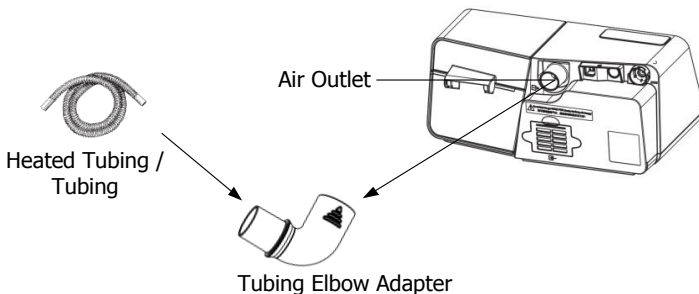

Fig. 12-9
(3) To apply the tubing elbow adapter, connect the tubing elbow adapter between the device air outlet and the tubing (heated or standard tubing) as shown in Fig. 12-9. The 90 degree elbow helps to direct the tubing.